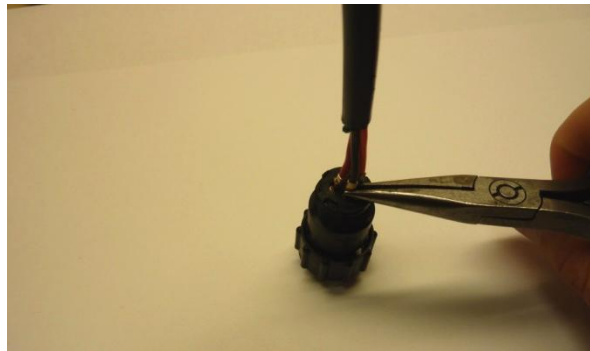

Figure 28: Use needle-nose pliers to push the pins further into the plug.
Step 7: Next use needle nose pliers to insert the pins further by grabbing the first crimp location and pushing all the way into the connector body. It helps if you place the connector face down on a table to provide extra leverage. It is critical that the pins are pushed as far into the connector body as possible. See Figure 28